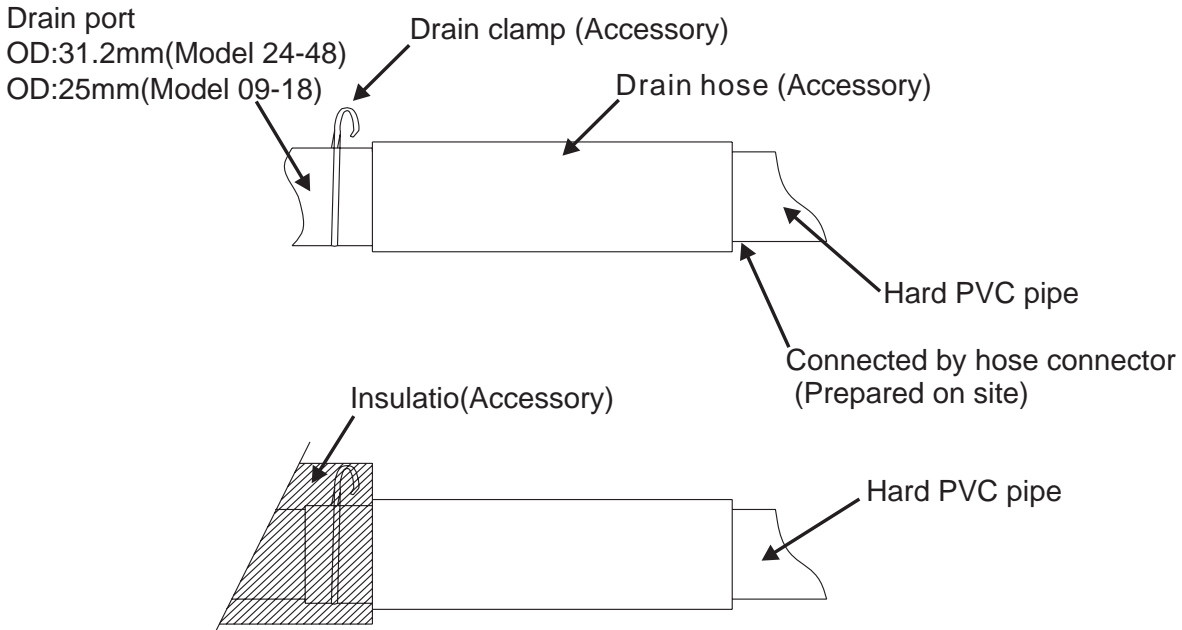

Fig.12
3. Insert the drain hose until it connects the drain port very well, and then secure it tightly with the hose clamp(Prepared on site)(Fig.12)
4. After checking the drainage, wrap the drain hose with the insulation and clamp. (Prepared on site)(Fig.12)